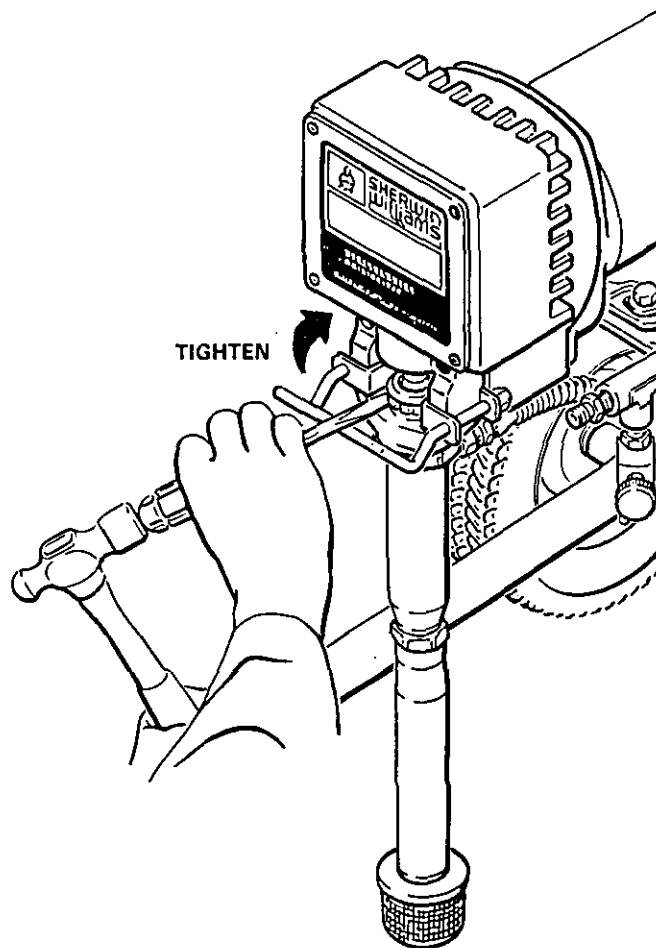

Fig 5
1. **Check the packing nut/wet-cup daily.** First follow the **Pressure Relief Procedure Warning** on page 10. Be sure the wet-cup is 1/3 full of TSL at all times to help prevent paint buildup on the piston rod and premature wear of packings. The packing nut should be tight enough to stop leakage, but no tighter. Overtightening may cause binding and excessive packing wear. Use a screwdriver and light hammer to adjust the nut. See Fig 5.